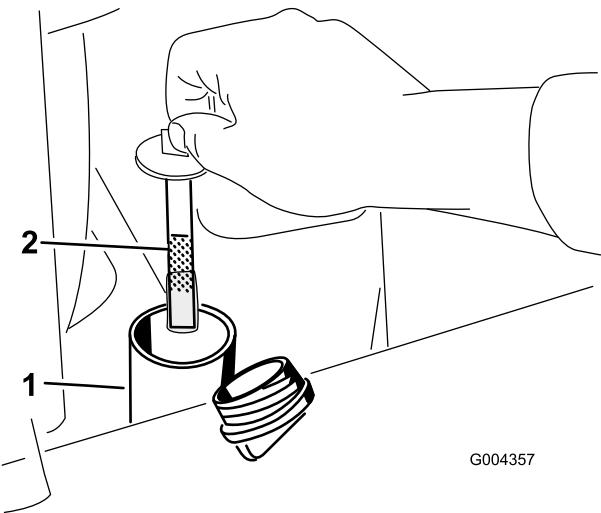

**Figure 17**
5. Clean the area around the filler neck of the hydraulic tank (Figure 17).